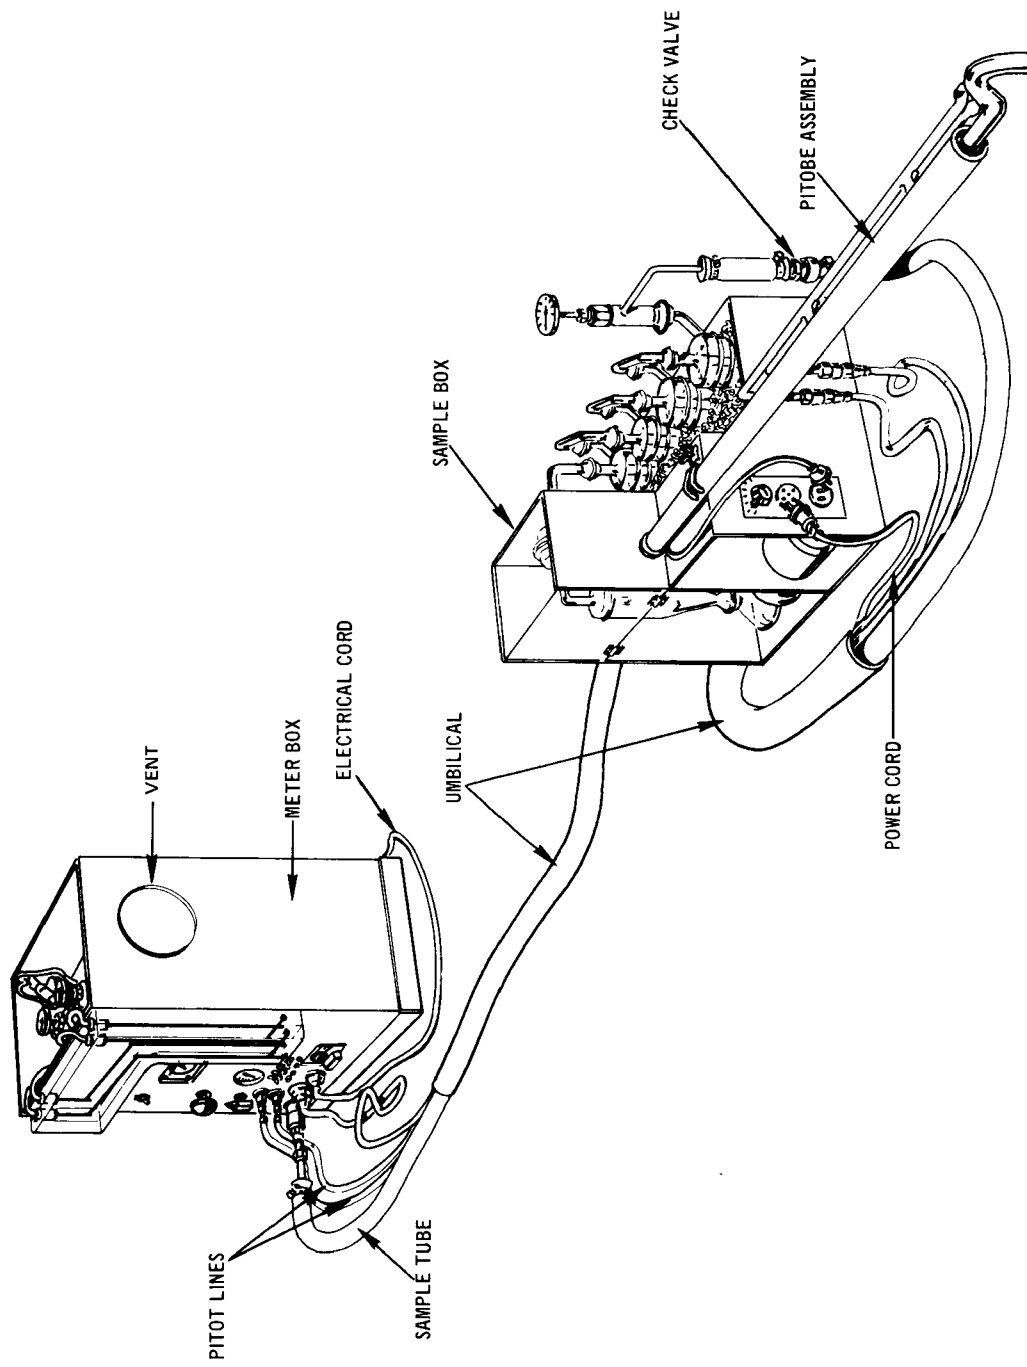

Figure 1. Sampling train.
The sampling train has four major components: (1) the pitobe assembly, which includes the probe nozzle, a heated glass probe, and a pitot tube for monitoring gas velocity during sampling; (2) the meter box assembly, which consists of a system of manometers, an orifice meter, a vacuum pump, a dry gas meter, and electrical controls for sampling; (3) the sample box assembly, which contains the glassware; and (4) the umbilical cord, which connects the sample box with the meter box. A representation of the sampling train is shown in Figure 1. The maintenance and calibration procedure described for each of the components should be followed in the shop or laboratory in preparation for each sampling test.